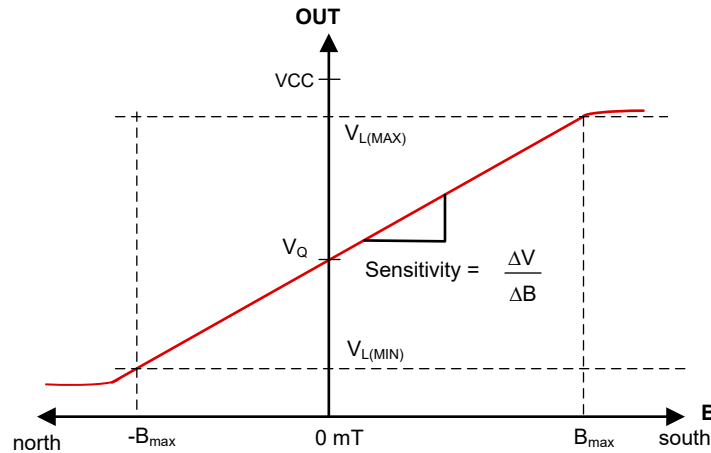

图 8-4. Magnetic Response for TMAG5253B (Bipolar) Version
图 8-4 shows the response of the bipolar device option (B), which is sensitive to both the positive and negative magnetic fields.